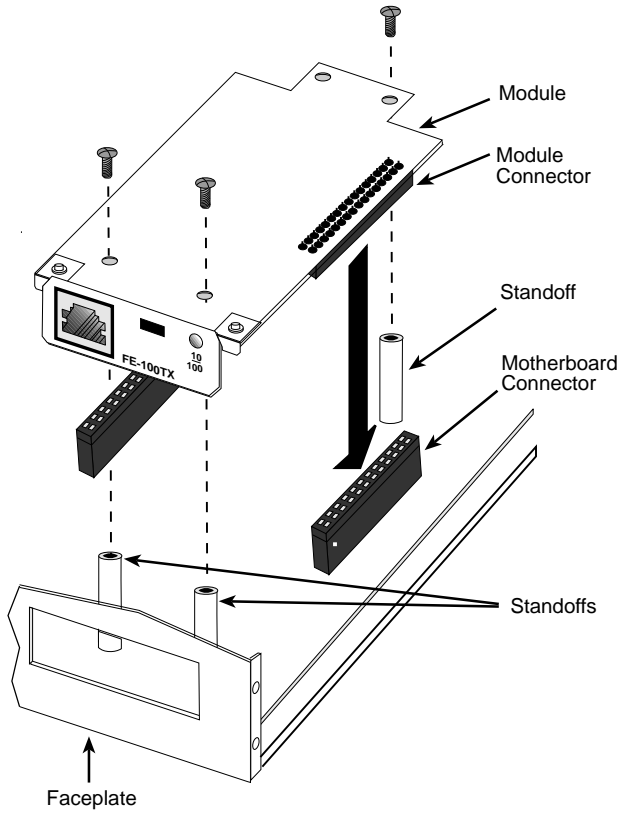

Figure 2-2. Installing an FEPI
4. Install the FEPIM as shown in Figure 2-2. Ensure that the rear connector is seated firmly before tightening the three mounting screws.